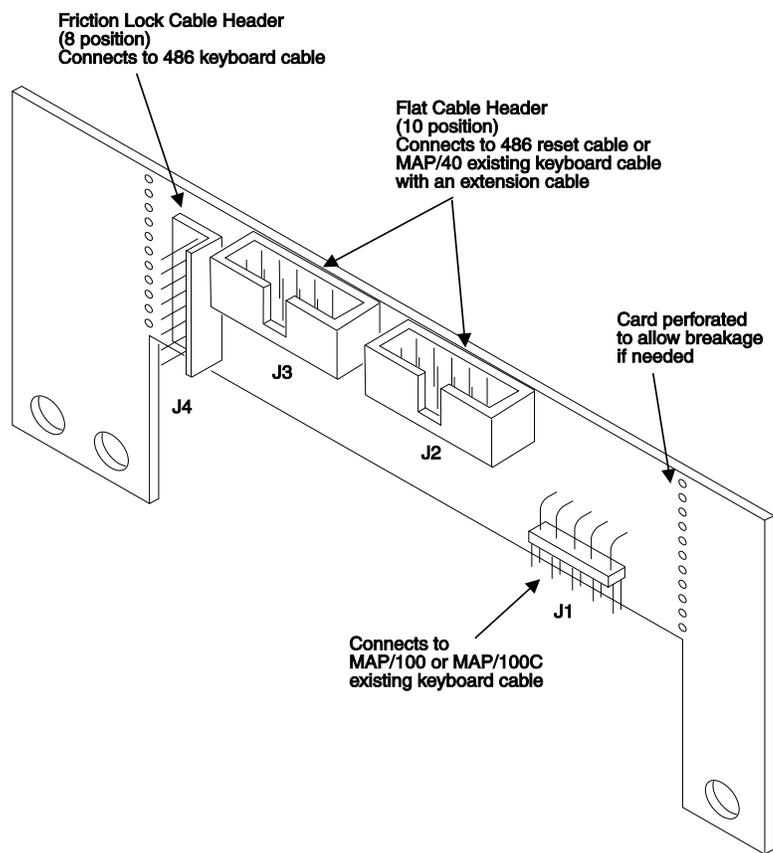

Figure 4-1. CPU/RMB Keyboard Adapter
1. Pick up the CPU/RMB keyboard adapter and plug the new keyboard/reset extension cable connector onto J2 of this adapter. Refer to Figure 4-1 to see the proper orientation.
2. Plug the new 486 keyboard cable onto J4. Plug the RMB reset cable onto J3. Refer to Figure 4-1 for the proper orientation.